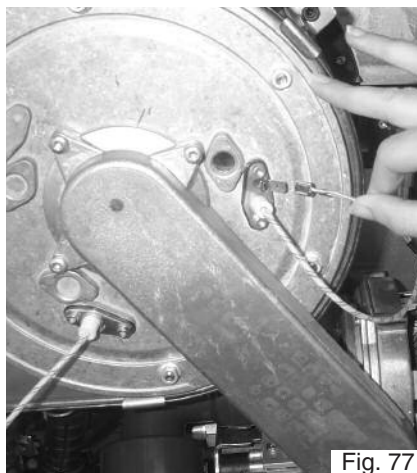

Fig. 77
2. Disconnect the earth cable from the ignition electrode. (Fig. 77);